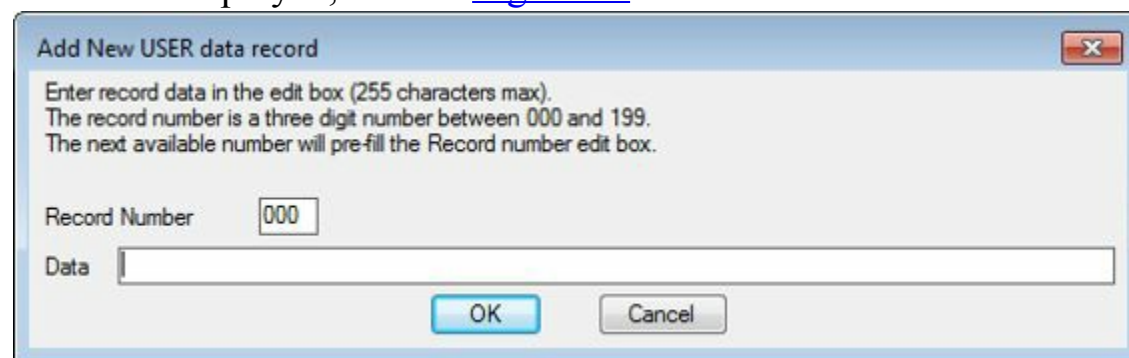

Figure-18. Add New USER data record dialog box
- Click on the **Add New** button from the dialog box. The **Add New USER data record** dialog box will be displayed; refer to Figure-18.